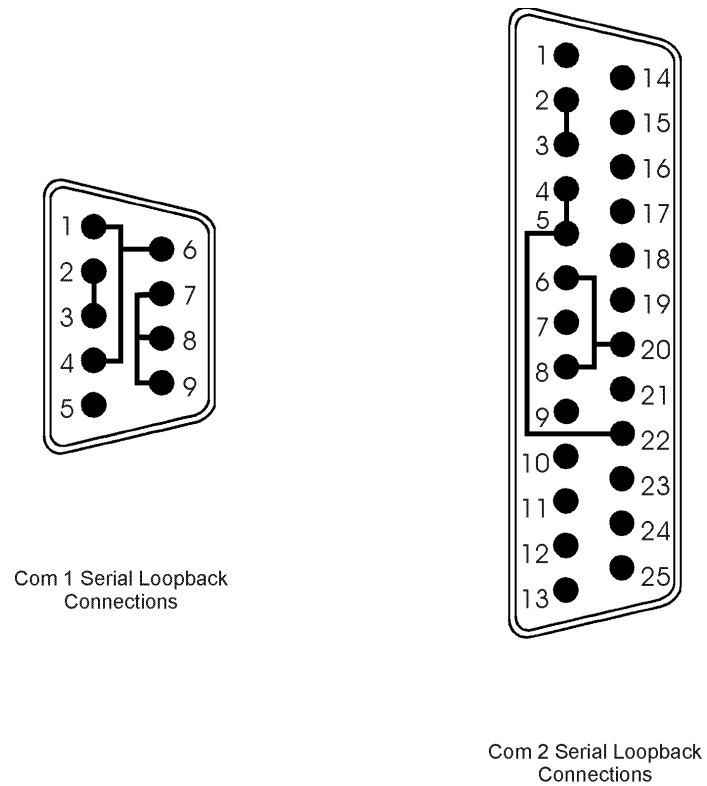

Figure 7-1. Serial Loopback Connections
- Two serial loopback test connectors (refer to Figure 7-1 for pinouts)
4. Connect the serial loopback connector(s) and the printer cable to the appropriate connectors and connect a PC/AT or PS/2 keyboard. Figure 7-1 illustrates the wiring necessary for the loopback connection.